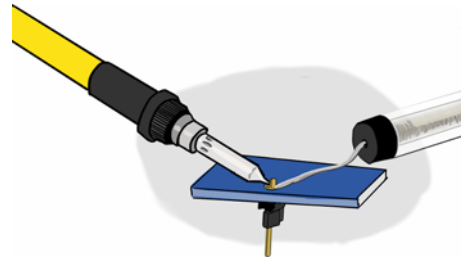

Figure 7.16 The heated pin will cause the solder to melt and flow around the joint.
- 5 Keep the iron in place and apply the end of the solder to the opposite side of the joint (figure 7.16). You won’t be melting the solder directly with the iron—solder instead comes into contact with the heated pin and board connection. Keep your soldering iron at the bottom of the pin; ignore the temptation to move it up toward the solder.